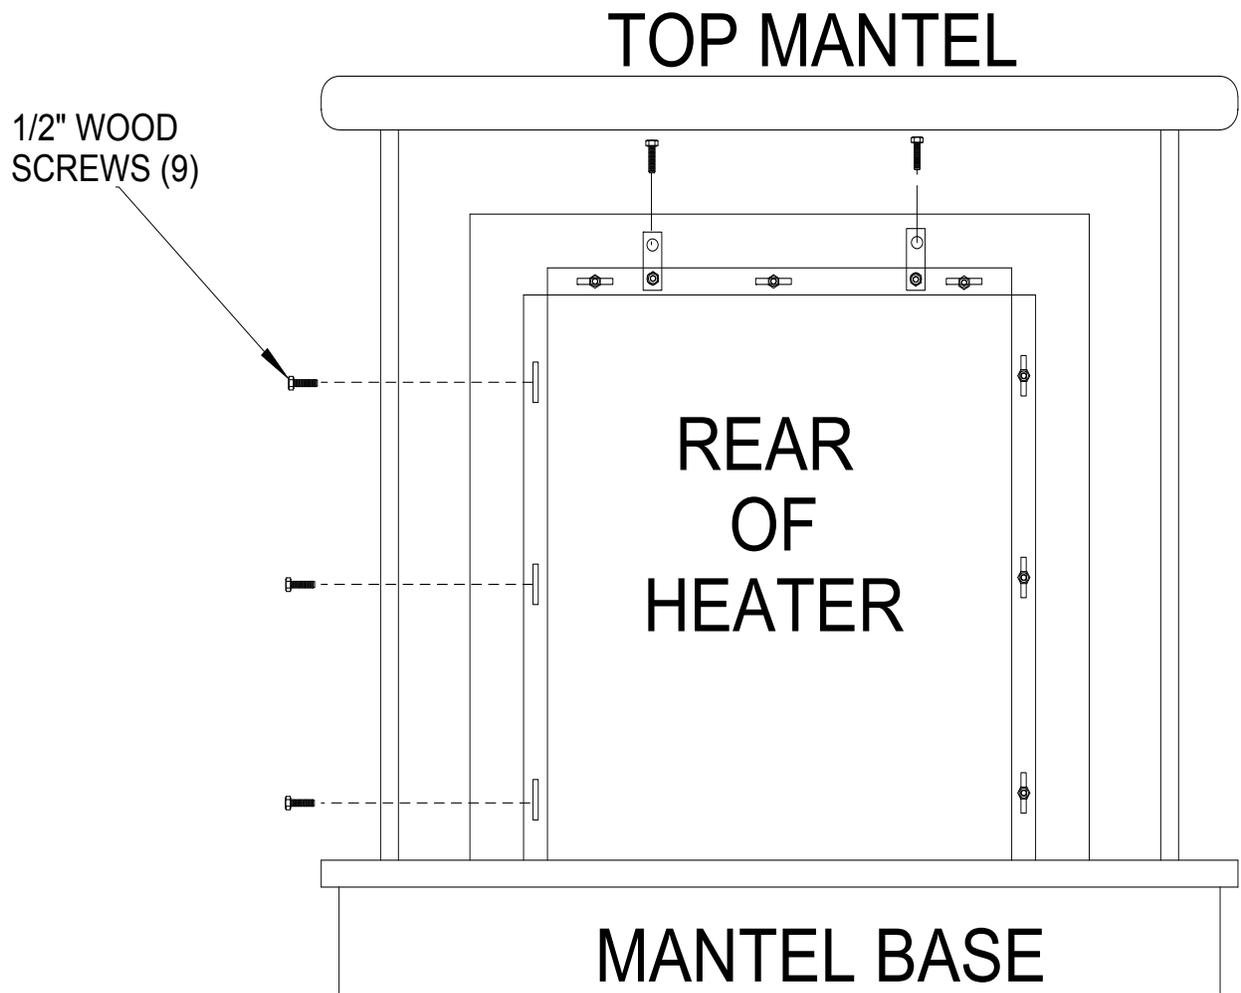

FIGURE 6
(5) Center the heater in the opening of the mantel. See Figure 6.
(6) Fasten mantel to hearth by using ½" wood screws.
(7) Insert the nine (9) ½" wood screws provided with mantel through slots on nailing flange and secure in place. See Figure 6.
(8) Position mantel and fireplace into desired location.
(9) To light the heater, see “Lighting Instructions” pages 19 through 30. Make sure you have the right gas valve for Natural or LP gas.